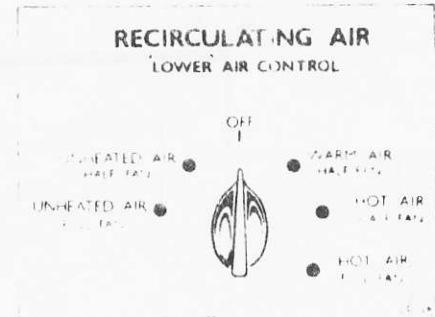

Fig. C3 (S) Switch positions heating unit 'Lower' system
The effect produced by each position of the switch is described in Figure C3 (S) of this Supplement.